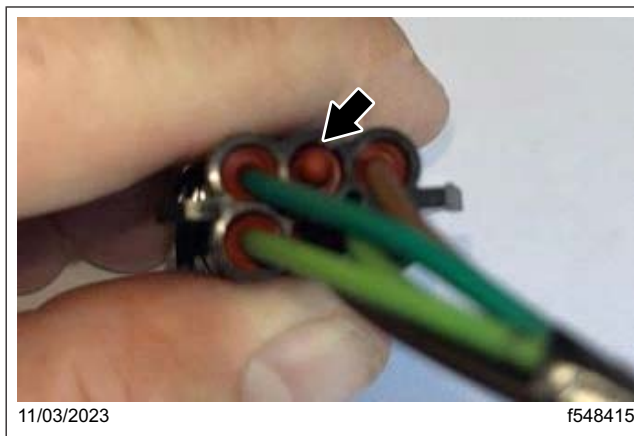

Fig. 77, Plow Light Interface Connector with the Plug to be Removed from the Empty Cavity (cavity E)
- 36.3 Locate the empty cavity (cavity E), and remove the rubber plug from each of the two plow light interface connectors. See Fig. 77.